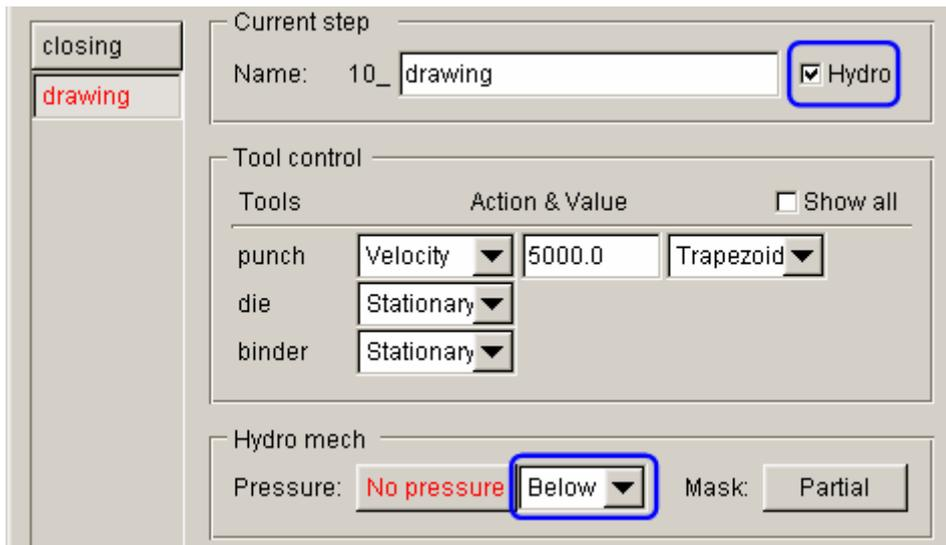

Figure 7.42 Hydro mech option
4. Next, toggle on checkbox of **Hydro mech** option, as shown in Figure 7.42. Click the drop-down button of **Hydro mech** option to select **Below** option, indicating the fluid pressure is applied from the bottom of blank.